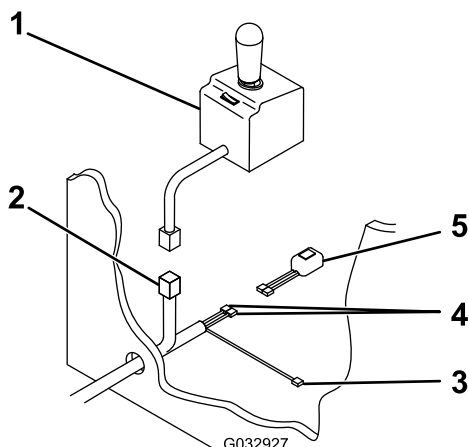

Figure 16
11. Pull the plow controller connector, black/red wire, and 2 black wires into the vehicle cab through the hole in the firewall (Figure 16).
12. Connect the 2 black wires to the headlight toggle switch (Figure 16).